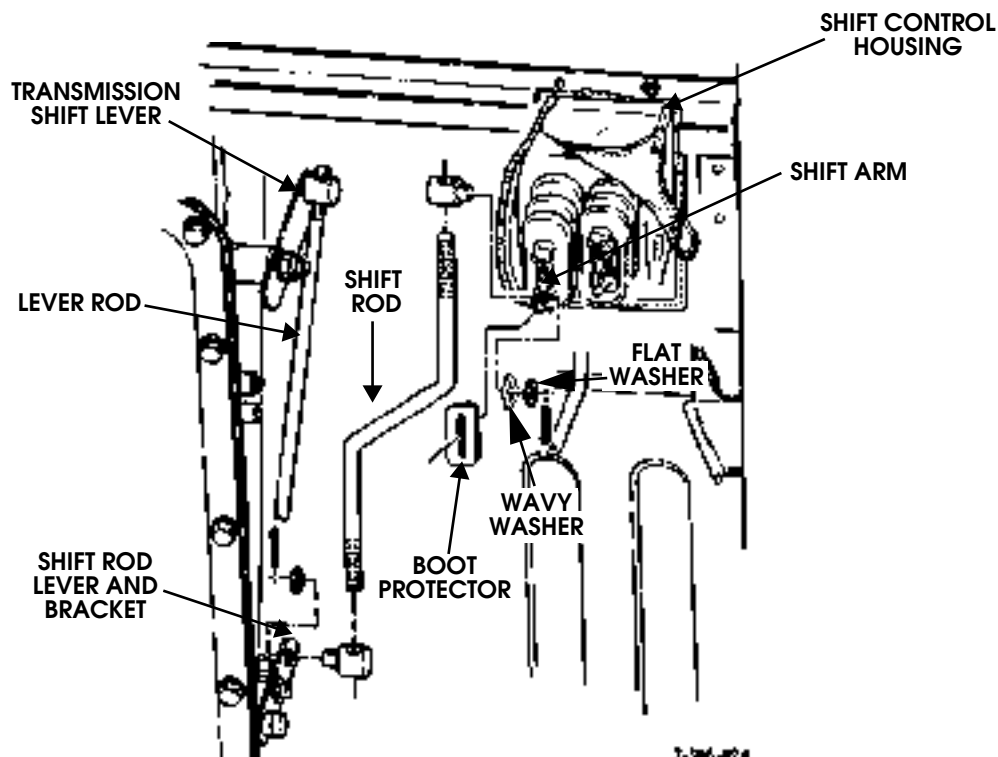

Figure 5-62: Shift Linkage Disassembly/Assembly
3. Remove cotter pin and washer from shift rod rear trunnion. Disconnect trunnion and remove wave washer and shift rod from shift rod lever (Figure 5-62).